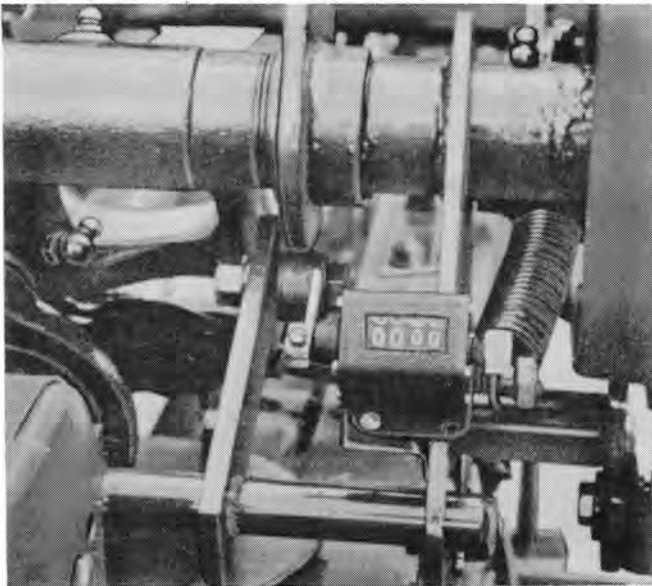

FIGURE 58
**BALE COUNTER** — See Figure 58. The bale counter keeps an accurate record of the number of bales.